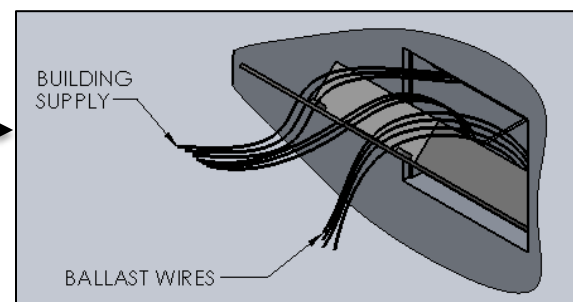

FIG. 14- DETAIL SHOWING BUILDING SUPPLY AND
10. Make BUILDING SUPPLY wire connections and tuck them into the top section of the box leaving the DRIVER WIRES out as shown in FIG. 14.